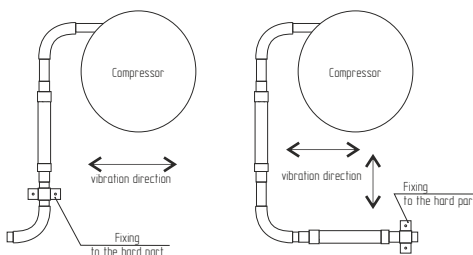

Fig.2. Mounting scheme
- Vibration absorber is installed perpendicular to direction of vibration. If vibration occurs in both axis, two vibration absorbers must be installed the way as shown on fig.2
- For optimal vibration elimination the end of vibration absorber must be fixed as shown on fig.2